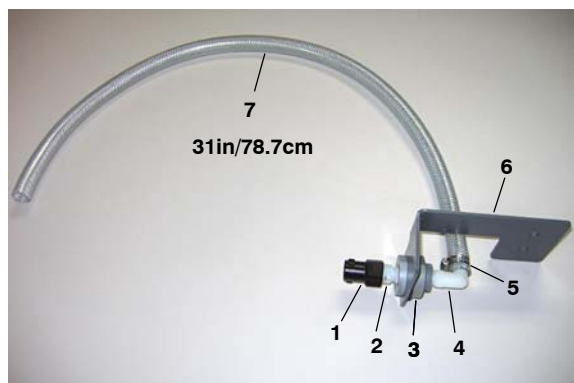

Fig. 38
1. Assemble the *ec*-H₂O solution hose assembly as shown (Figure 38). Use a thread sealer on all fittings. Cut hose length as specified.